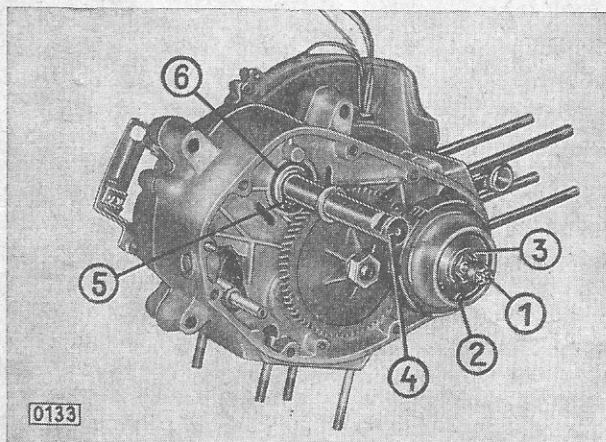

Fig. 6: Primary drive and clutch:
1. Take large snap ring (fig. 6/2) off the clutch bearing (fig. 6/3), remove set bolt and clutch bearing (fig. 6/3). Open lock plates of nuts on the counter shaft and crankshaft journal, fits sprocket holder (special tool part no. 360.1.70.